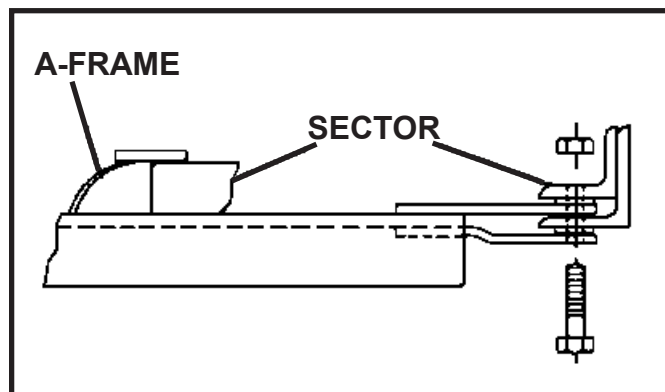

Figure 2
- e. Attach A-Frame to Sector (29) as shown in Figure 2. **IMPORTANT:** Install King Bolt (25) from bottom so that locknut (25) is on top.